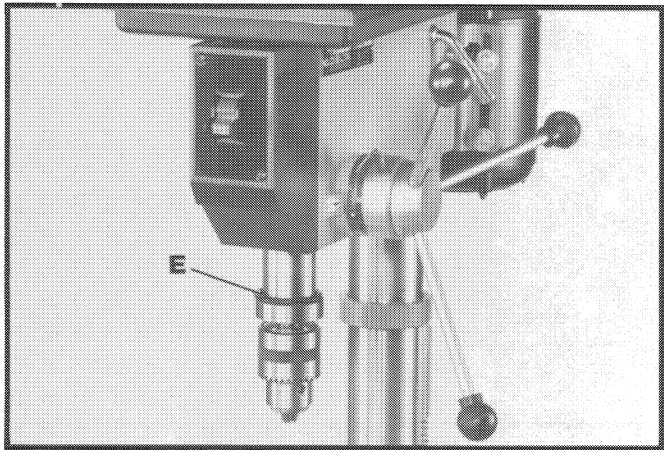

Fig. 4
4. Lower the spindle approximately 2" and lock in place. Remove O-ring (E) Fig. 4, from spindle assembly.